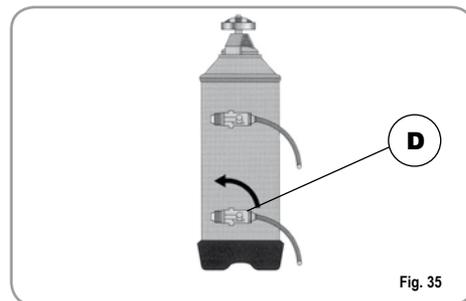

Fig. 35
3) Reposition lever D towards the left (Fig. 35).